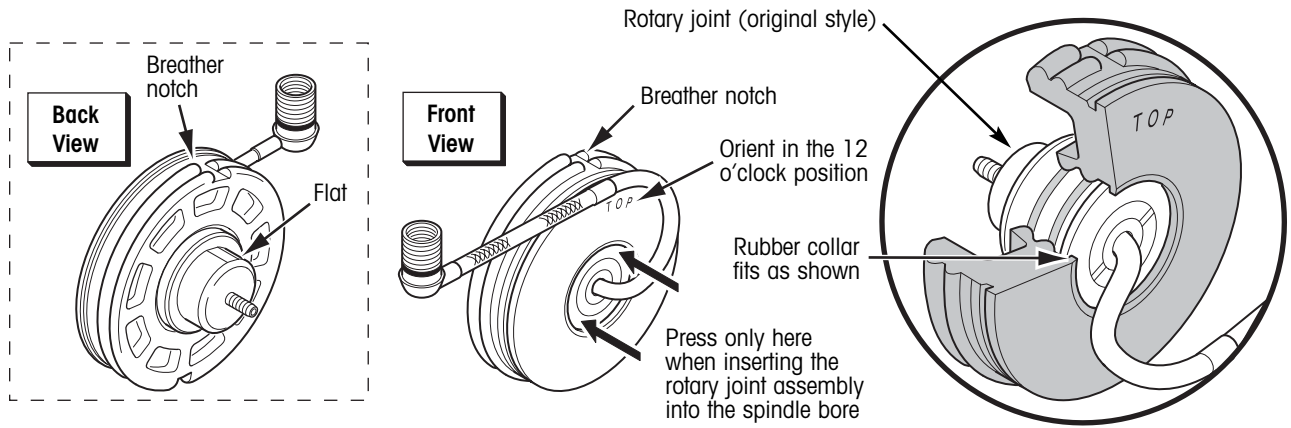

Figure 10. Original style rotary joint assembly
1. If necessary, install the rotary joint in the rubber collar. Align the breather notch in the rubber collar with the flat on the rotary joint (figure 10).
⚠ CAUTION: When inserting the rotary joint assembly into the spindle bore in the next step, do not push on the steel air tube. Carefully push only on the face of the rotary joint where it meets the rubber collar (figure 10).